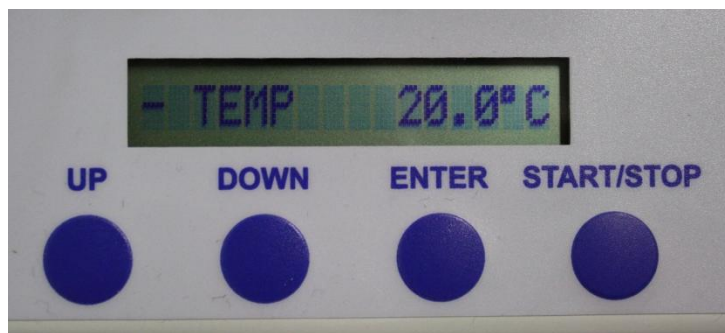

Figure 13. Front panel and display of the chiller, with temperature control active
2. Press the START/STOP key to activate temperature control. The icon at the far left of the display will change from a star to a plus or minus symbol to indicate that the chiller is active. The coolant temperature should eventually stabilize at 20 ± 0.2 °C, as shown in **Figure 13**.